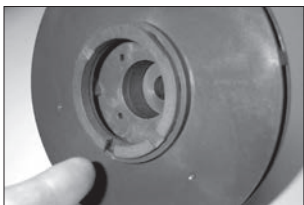

Figure 23
- Using a razor knife or side cutters, cut a notch out of the thrust ring. Pull up and out of the holder. See figures 23 and 24.